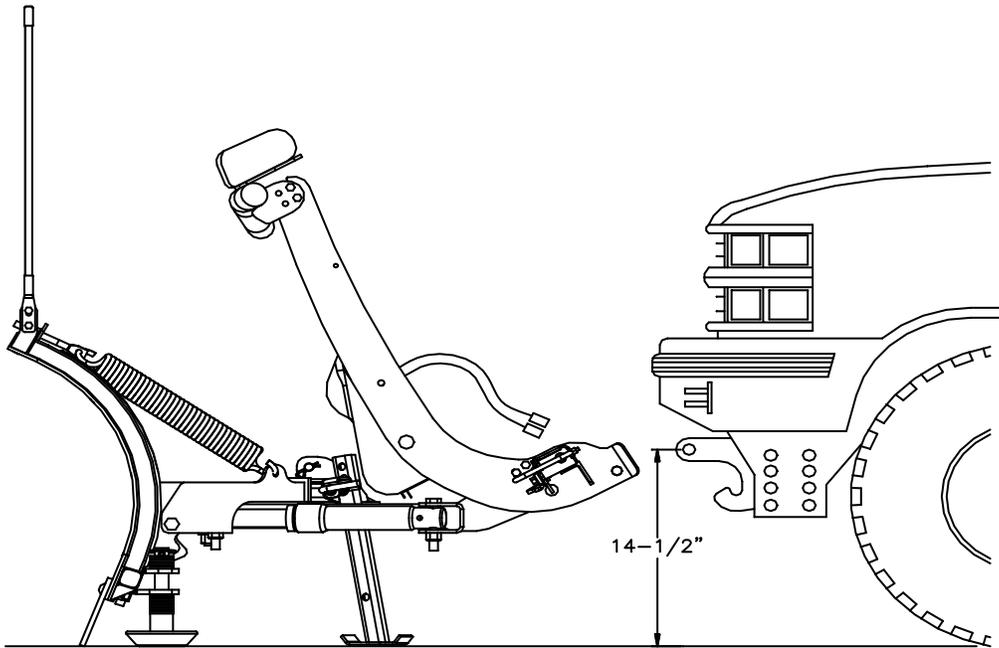

Figure 2
2. Insert 5/8" Washer Bar (103) into the truck frame through the front of the frame horn. Align the hole in the washer with the frame slot. Drop 5/8" Bolt Bar (102) down through 5/8" Washer Bar (103) and through the frame slot. Repeat on the other frame rail.
3. Assemble Push Beam Support Plate (62A & 62B) to the bottom of the frame rail. Begin by assembling 5/8" Split Lock Washer (F) and 5/8"-11 Finished Nut (E) to 5/8" Bolt Bar (102) installed in step 2. Next, replace the tow hook and tow hook bolts removed in step 1. Leave all hardware finger tight. Repeat on the other frame rail.
5. Install 1/2" Bolt Bar (101) through one of the holes in the outside frame wall and install through the drilled hole in the inside frame wall for Push Beam Support Plate (62A & 62B). Assemble 1/2" Split Lock Washer (D) and 1/2"-13 Finished Nut (C) to 1/2" Bolt Bar (101). Leave hardware finger tight. Repeat on the second drilled hole and on the other frame rail.
6. Assemble Push Beam (62) to Push Beam Support Plates (62A & 62B) using 1/2"-13 x 1-1/2" Bolts (A) and 1/2"-13 Lock Nuts (B). Leave hardware finger tight. The hole in the Push Beam (62) receiver hooks should be 14-1/2" from the ground (See Figure 2). The plastic valance on the bottom of the bumper may need to be removed or notched in order to achieve this.
7. Assemble Angle Bracket (75) to the tabs on the back of Push Beam (62) using  $\frac{1}{2}$ "-13 1-1/2" (A) and  $\frac{1}{2}$ "-13 lock Nuts (B). Be sure that Angle Bracket (75) is level and matches the contour of the cross-member on the bottom and on the forward angled face.
8. Drill four holes in the cross member for Angle Bracket (75). Drill for  $\frac{1}{2}$ " bolts.
9. Install  $\frac{1}{2}$ " Bolt Bar (101) through the large hole in the center of the cross member and assemble to one of the holes drilled in step 8. Assemble 1/2" Split Lock Washer (D) and  $\frac{1}{2}$ "-13 Finished Nut (C) to  $\frac{1}{2}$ " Bolt Bar. Repeat on all four drilled holes.
10. Tighten all hardware beginning with Push Beam Support Plates (62A & 62B). Continue with Angle Bracket (75) hardware and finally Push Beam (62) hardware.